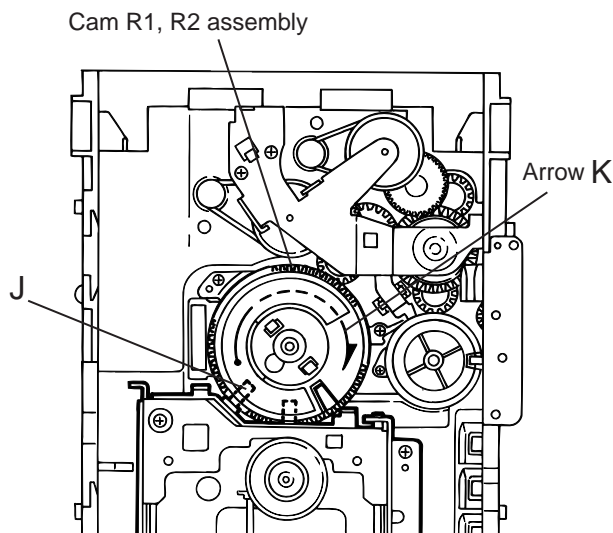

Fig.11
■ Removing the CD traverse mechanism (See Fig.11 and 12)
1. For dismantling only the CD traverse mechanism without removing the CD loading mechanism assembly, align the shaft "J" of the CD loading mechanism assembly to the position shown Fig.11 while turning the cam R1 and R2 assembly in the arrow direction "K".